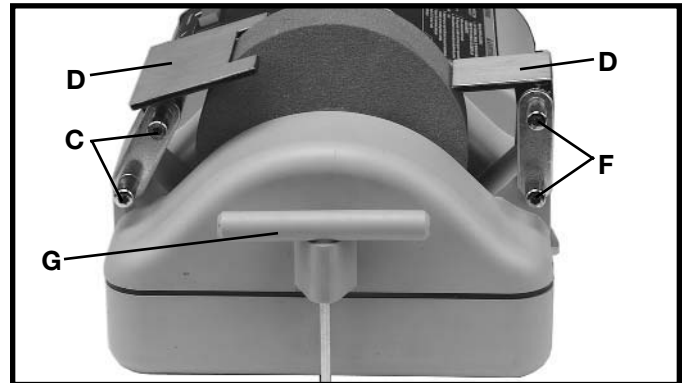

Fig. 7
Each tool rest assembly (D) Fig. 7, is adjustable so it can be positioned as close to the grinding wheel as possible, giving maximum support to the piece that is being ground. Always maintain a distance of 1/8" or less between the grinding wheel and the inside edge of the tool rest. **⚠️ WARNING:** As the wheels wear down, the tool rest should be adjusted accordingly. When the tool rests are positioned correctly, tighten screws (C) and (F) with hex wrench (G).